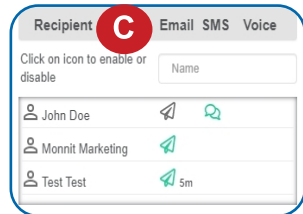

Figure 20
- C. Recipient list identifies who will receive the notification. See Figure 20.